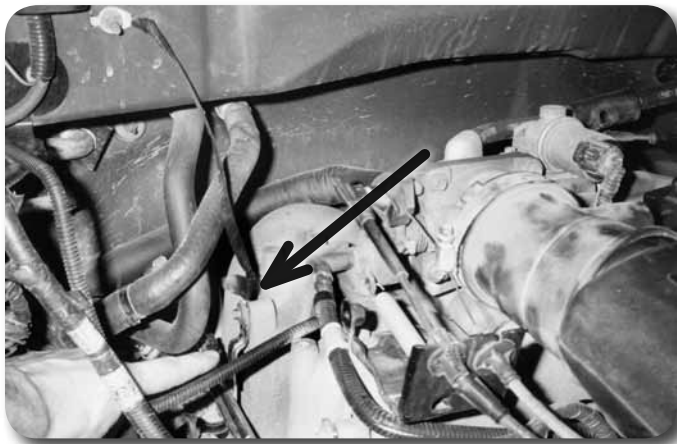

Figure 5
14. Relocate the ground strap (if equipped) that runs from the upper firewall to the passenger's side of the intake manifold. Remove the wire that is mounted on the intake manifold and relocated it to the rear fuel rail mount **Figure. 5 shows relocated position.**